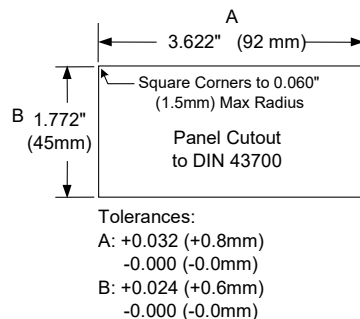

Figure 1. 1/8 DIN Panel Cutout Dimensions
- Prepare a standard 1/8 DIN panel cutout - 3.622" x 1.772" (92 mm x 45 mm). Refer to *Figure 1. 1/8 DIN Panel Cutout Dimensions* below for more details.